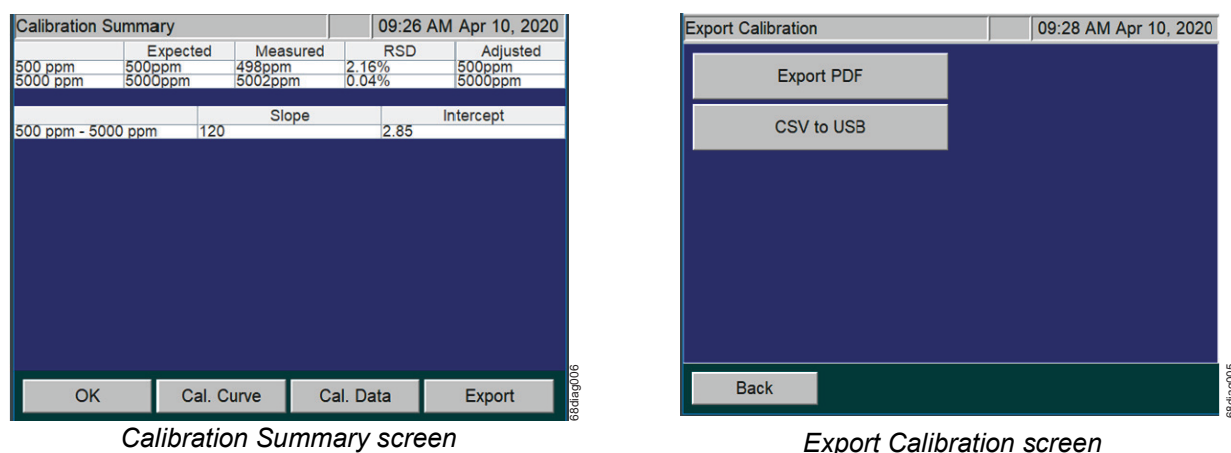

Figure 50: Export Calibration screens
- To export the calibration summary, select the **Export** button to open the *Export Calibration* screen (see Figure 50).